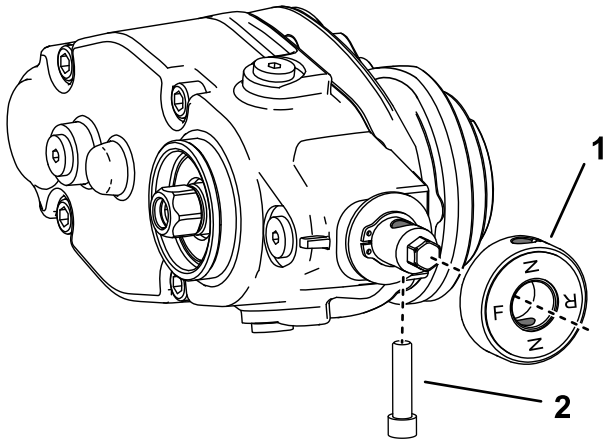

Figure 15
3. If you are installing the groomer at the left side of the machine, perform the following (Figure 15):
- B. Remove the clutch-knob assembly and flip it over (Figure 15).